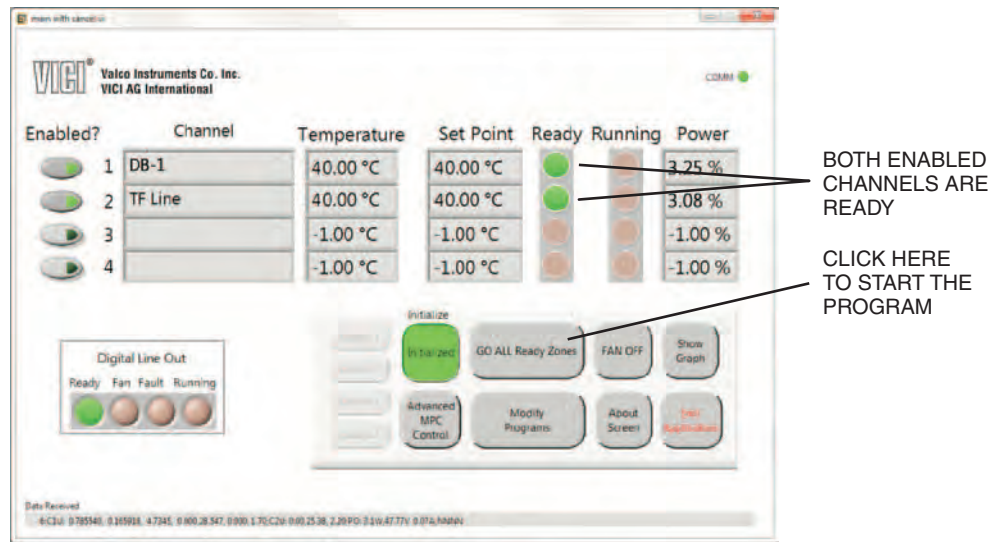

Figure 14: Ready LEDs on enabled channels indicate that the program can be started
3. Click the “Update Temp Program” to save changes and return to the main screen (**Figure 14**).